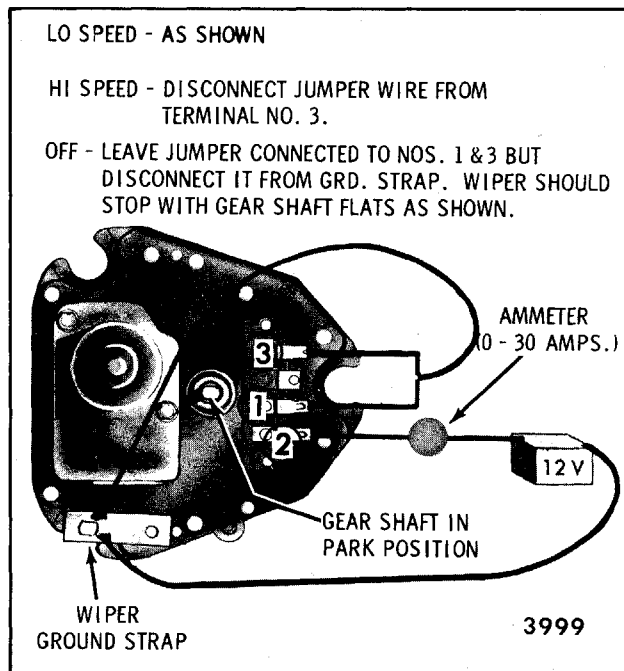
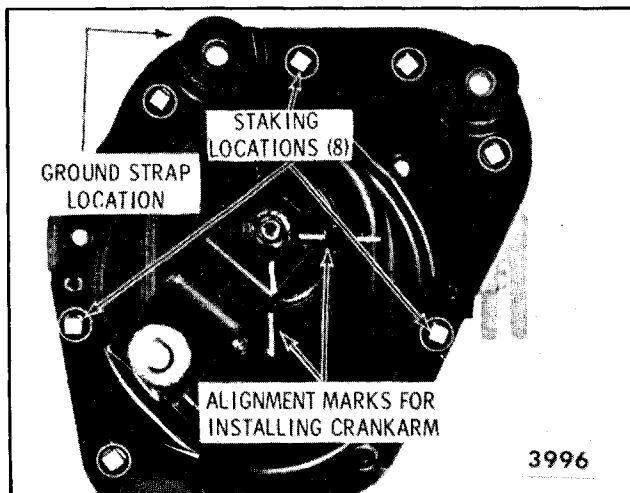

Fig. 2-28-Jumper Wire Connections
Fig. 2-36-Staking Locations
- Disconnect wiring harness from wiper and try operating wiper as shown in Figure 2-28.
DIAGNOSIS CHART - WIPER OFF CAR - Figures 2-28, 2-33 and 2-34
DIAGNOSIS CHART - WIPER OFF CAR - Figures 2-28, 2-33 and 2-34 (Contd)
4. Drill out staking that secures gear box cover (Fig. 2-36). Use a 9/32" drill.
8. To reassemble crank arm in proper position, operate wiper to park or off position (Fig. 2-28) and install crank arm so that index marks on crank arm line up with those on the gearbox cover (Fig. 2-36).